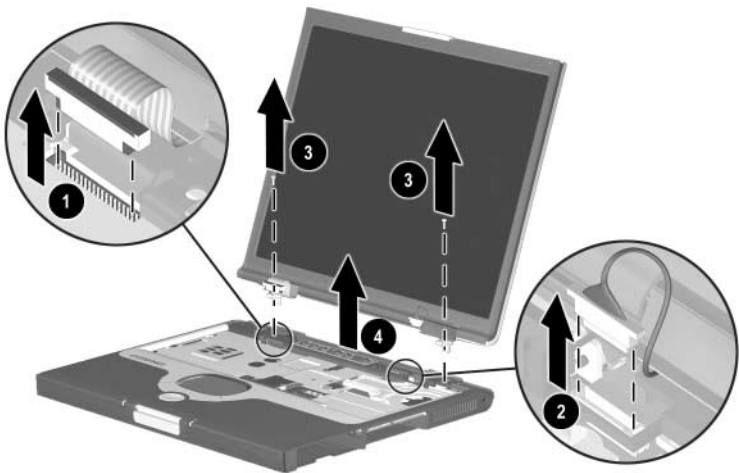

Figure 5-19. Removing the Display
6. Disconnect the display video **1** and display inverter **2** cables from the system board (Figure 5-19).